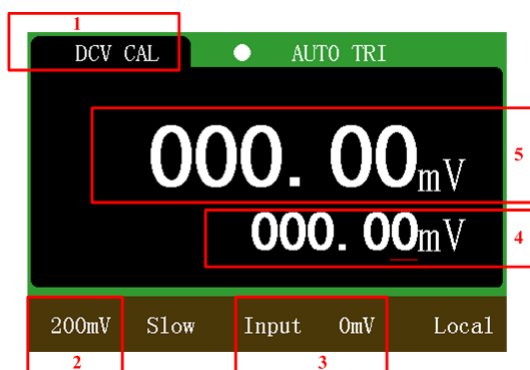

Figure 8-1 Calibration interface
1. Enter 0mV according to the prompt of zone 3 in Figure 8-1. Press Enter key after the measured value in area 5 is stable.
2. Enter -200mV according to the prompt of zone 3 in Figure 8-1. Press Enter key after the measured value is stable.
3. Enter 200mV according to the prompt of zone 3 in Figure 8-1. Press Enter key after the measured value is stable.
1. Enter 0V according to the prompt of zone 3 in Figure 8-1. Press Enter key after the measured value in area 5 is stable.
2. Enter -0.5V according to the prompt of zone 3 in Figure 8-1. Press Enter key after the measured value is stable.
3. Enter -1V according to the prompt of zone 3 in Figure 8-1. Press Enter key after the measured value is stable.
4. Enter -1.6V according to the prompt of zone 3 in Figure 8-1. Press Enter key after the measured value is stable.
5. Enter -2.2V according to the prompt of zone 3 in Figure 8-1. Press Enter key after the measured value is stable.
6. Enter 2V according to the prompt of zone 3 in Figure 8-1. Press Enter key after the measured value is stable.
2. Enter 20V according to the prompt of zone 3 in Figure 8-1. Press Enter key after the measured value is stable.
2. Enter 200V according to the prompt of zone 3 in Figure 8-1. Press Enter key after the measured value is stable.
2. Enter 1000V according to the prompt of zone 3 in Figure 8-1. Press Enter key after the measured value is stable.